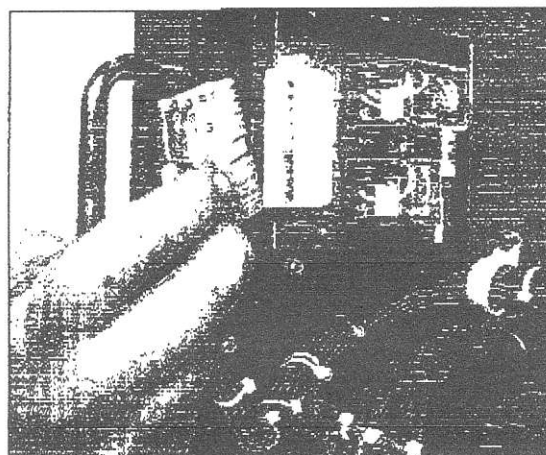

Fig. 69 Pull out the Connector
- 3) Disconnect the wire harness connector from the control circuit board socket by pulling the connector straight out while depressing the connector tab to unlock it (Fig. 69).